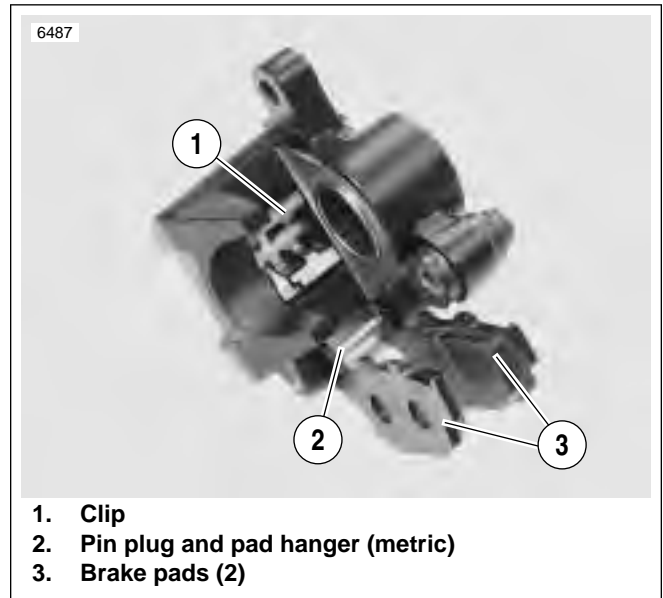

Figure 2-59. Brake Pads
2. See Figure 2-59. Remove spring clip (1).
1. See Figure 2-59. Place clip (1) inside caliper body as shown.
3. See Figure 2-59. Install brake pads (3) using pad hanger and pin plug (2).